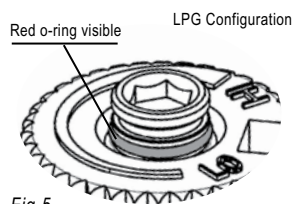

Fig. 5
13. Verify that if the conversion is from NG to LPG, the screw must be re-assembled with the red o-ring visible (Fig. 5).